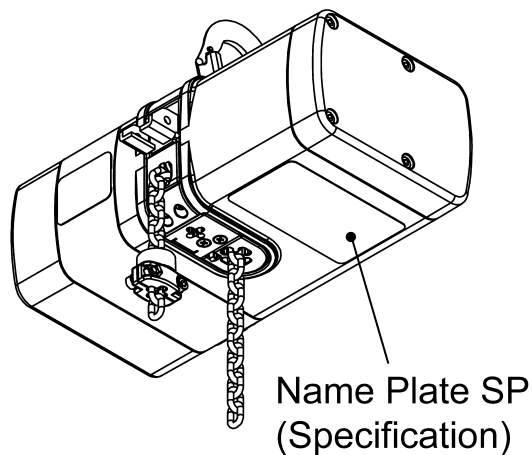

Figure 2-1 Identifying EM versus SEM Models
- 2.1.2 EM and SEM Models - Harrington EM series hoists are available in both three phase and single phase power. The EM model is the 3 phase version and the SEM model is the 1 phase version. Refer to Nameplate SP to verify the model by referencing the product code and voltage requirements. (See **Figure 2-1**)